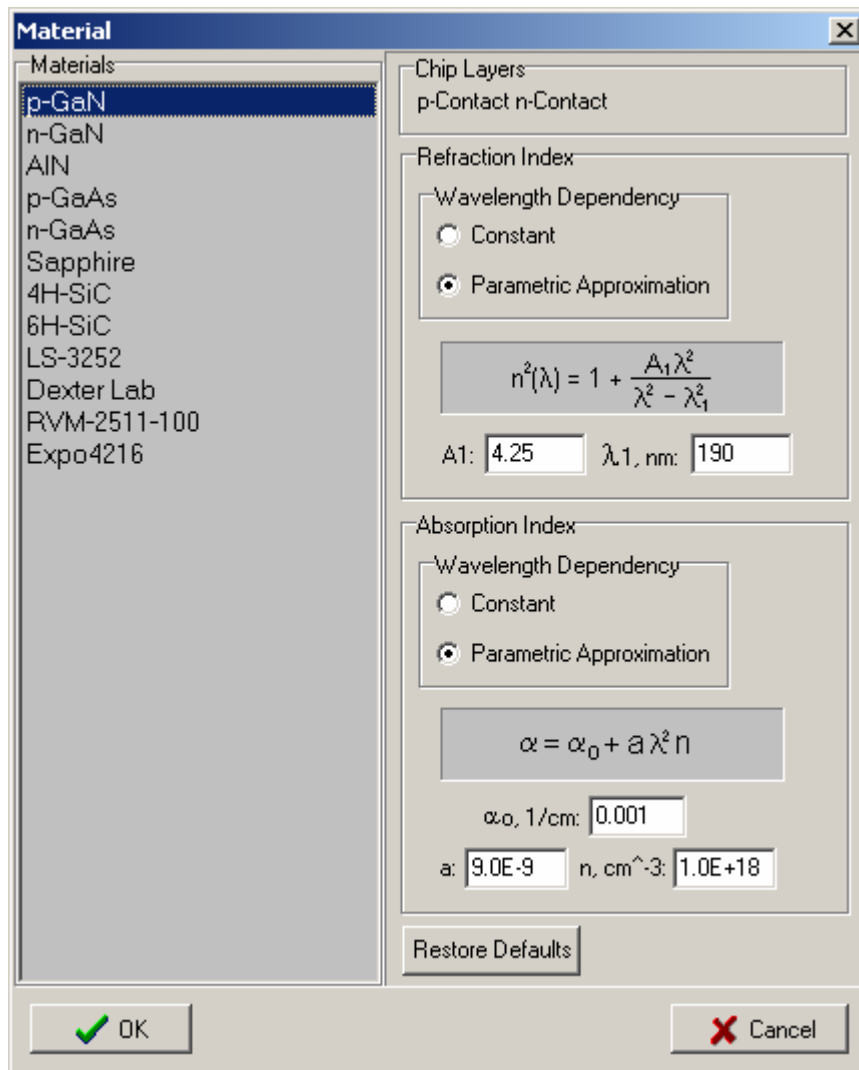

Fig. 60
- **Materials Editor** button (see Fig. 60) opens the material editor where the user can edit the parameter of the pre-defined materials. It includes the following sections: